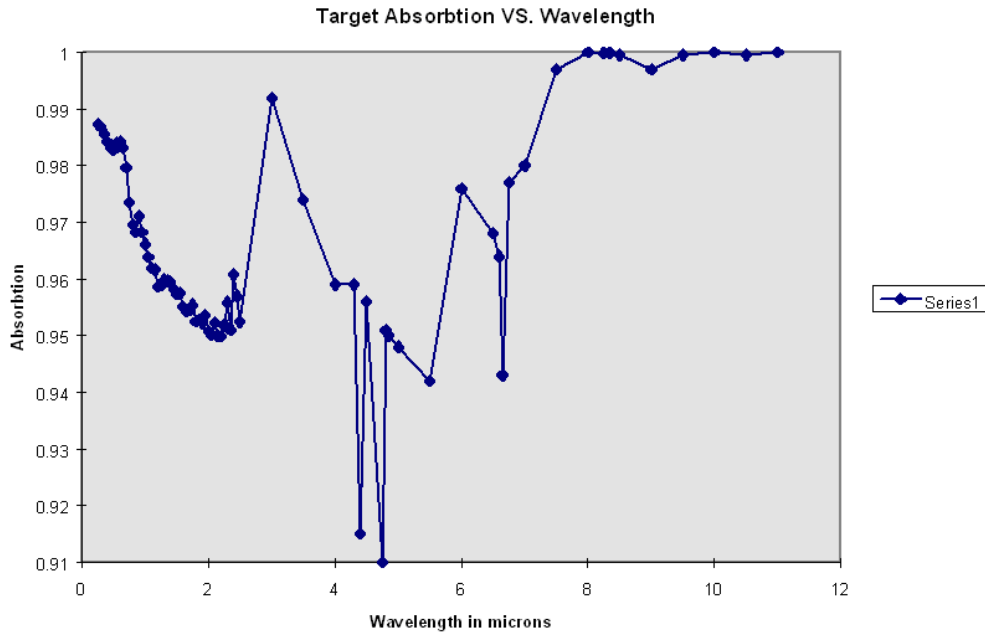

Figure 1 Target absorption versus wavelength
The target’s absorption is relatively constant as a function of wavelength (see Figure 1). No calibration factors are required when using the PW-250 with CO₂, YAG, near IR (diode), Visible or Excimer lasers because the change in target absorption is less than 3%. When using the PW-250 with Carbon Monoxide (CO) lasers, multiply the displayed reading by a factor of 1.03 for improved accuracy.